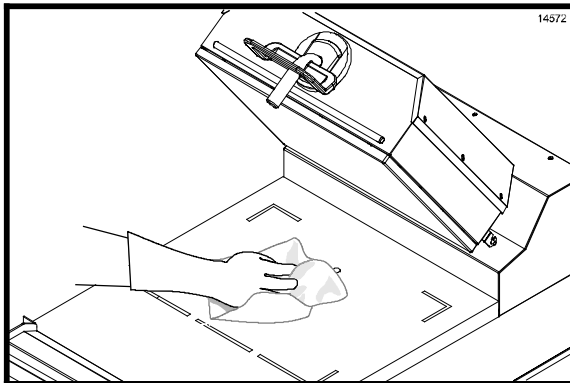

Figure 35
26. Pour a small amount of lukewarm water on a clean, sanitizer-soaked grill cloth while holding it over the bottom grill surface. Wipe the lower grill surface until all residue is removed. (See Figure 35.)